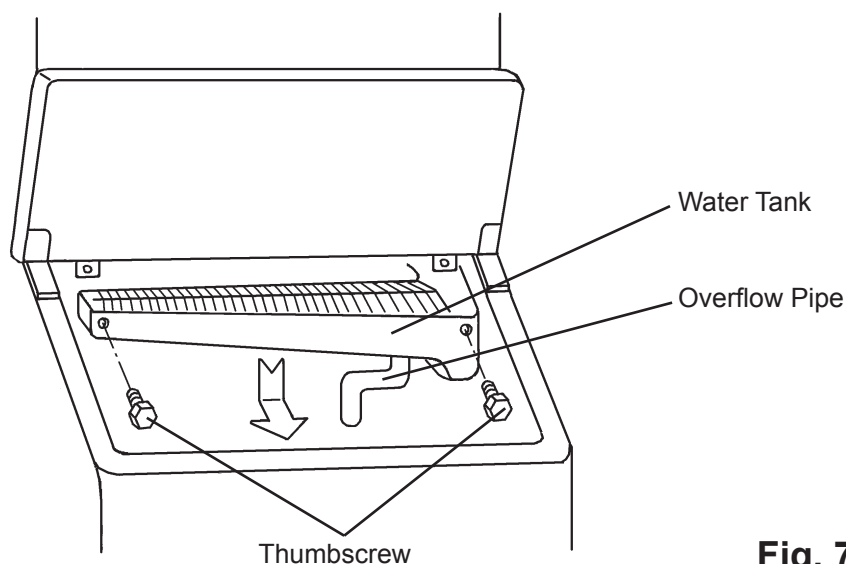

Fig. 7
- 4) Remove the two thumbscrews. Pull the water tank slightly toward you and push it down. Be careful to avoid breakage when handling the parts. See Fig. 7.